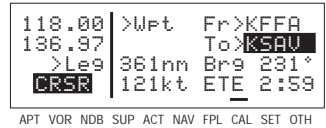

Figure 3-41
- Verify the waypoint information displayed, and then press **ENT** again to approve the waypoint page. The display will return to the page previously displayed (figure 3-41).